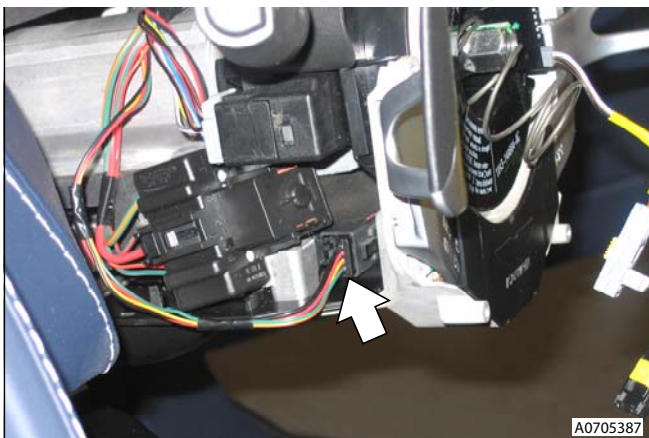

Figure 2
4. Disconnect the electrical connector for the paddle shift switch assembly (see Figure 2).